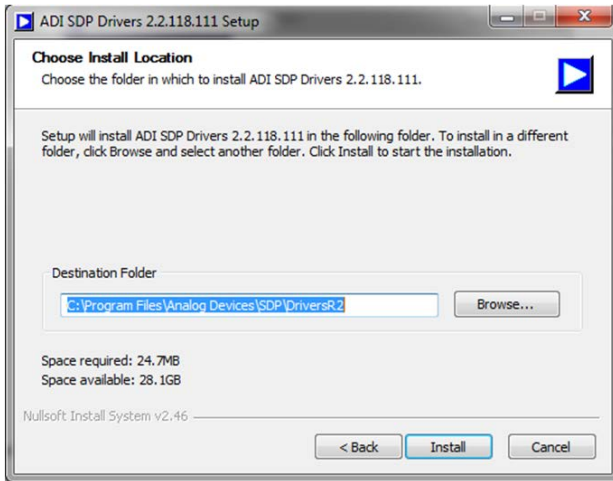

Figure 10. SDP-H1 Drivers Path
- Enter the desired path for the SDP-H1 drivers and click **Install** (see Figure 10).